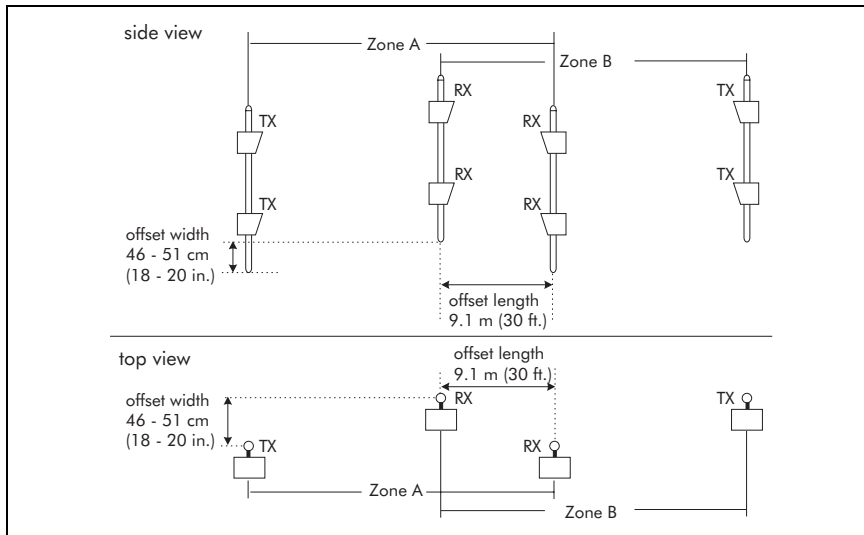

Figure a-9 Stacked multiple in-line microwave detection zones
Alternatively, the two transmitters or two receivers can be installed on the same post (see Figure a-9). Generally, the choice is dictated by site wiring considerations.
4. For multiple in-line zones, mount 2 transmitters on one post, and 2 receivers on another (see Figure a-9). Ensure that the modulation frequencies and polarizations of the 2 units on each post are different.